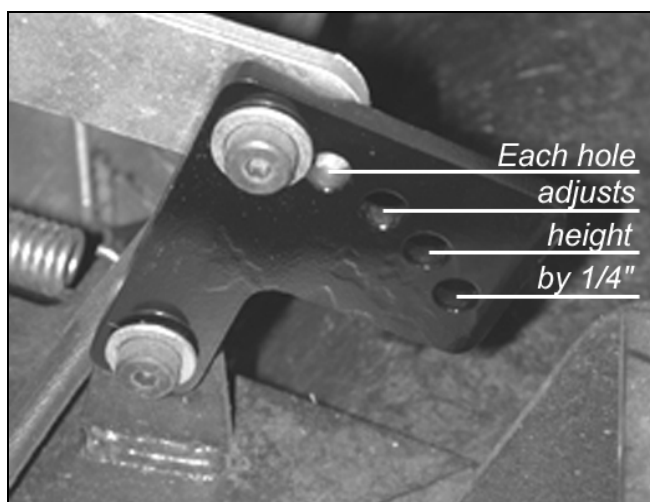

Figure 15
- Fine adjustment of the front to rear deck tilt (less than $1/4"$ change) is accomplished by moving both front bracket-mounting bolts to different holes in the adjustment brackets (*Figure 15*). Each hole change in the front brackets will adjust the rear deck height by $1/16"$.
- Adjust the deck as needed by moving to a different hole in the bracket (*Figure 15*). Each hole in the bracket will change the deck height on that side by $1/4"$.